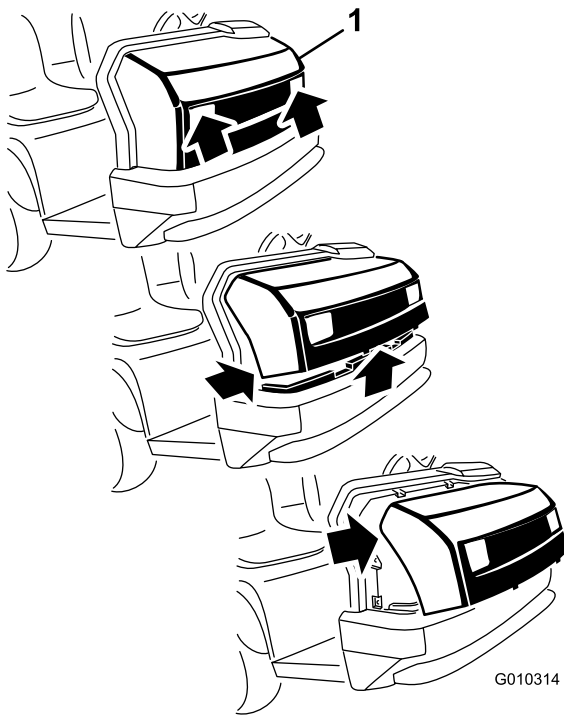

Figure 10
1. While grasping the hood in the headlight openings, lift up on the hood to release the lower mounting tabs from the frame slots (Figure 10).
2. Pivot the bottom of the hood upward until the top mounting tabs can be pulled from the frame slots (Figure 10).
3. Pivot the top of hood forward and unplug the wire connectors from the head lights (Figure 10).